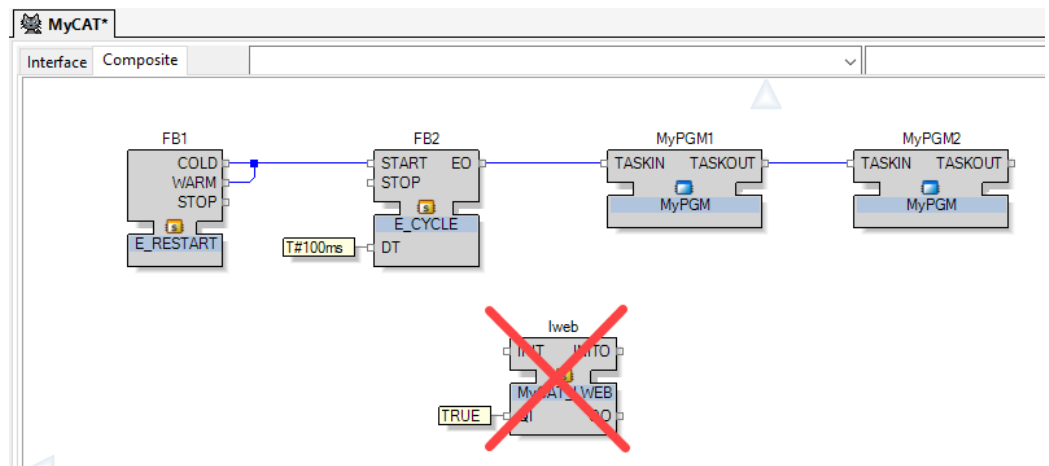

Figure 49: Embed the 61131 program in a 61499 CAT.
13. Connect the COLD and WARM Restart outputs to the START input by drag-and-drop between the function blocks as shown in Figure 49.